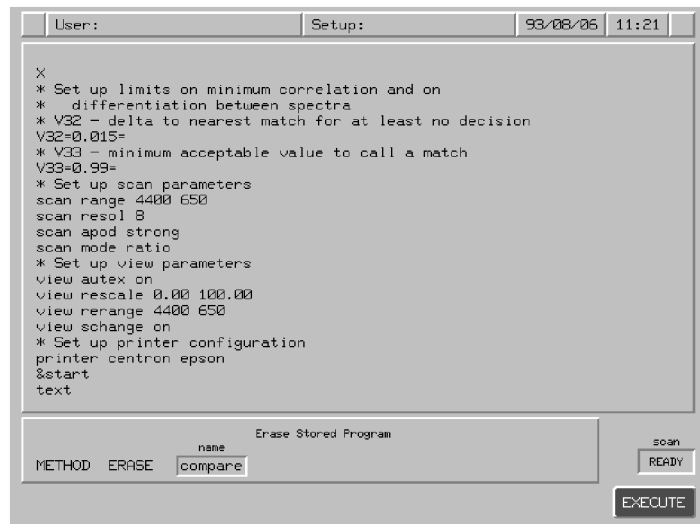

Figure 6-3 Erasing a Method
*The method is listed, and an **EXECUTE** key appears (Figure 6-3).*